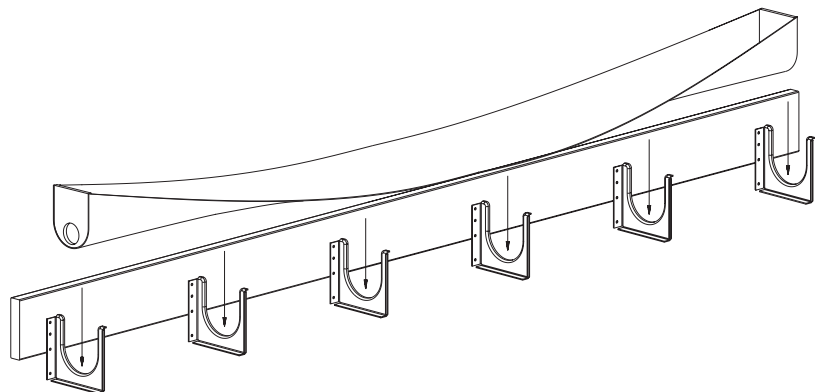

Figure 6
8. With the end caps installed, lay the entire gutter on the gutter support as shown in Figure 6. The end of the gutter should be 12" from the first gutter support (6" for a five foot system).